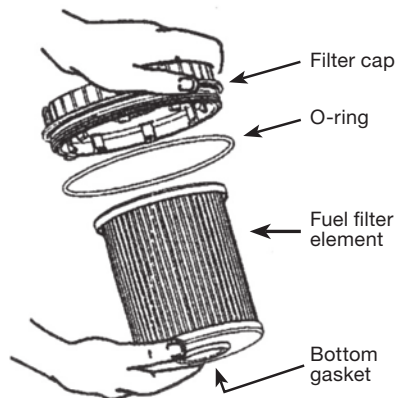

Figure 1. Fuel filter cap, o-ring, element and element gasket.
3. Ensure that the gasket on the bottom of the element is still intact (see Figure 1).